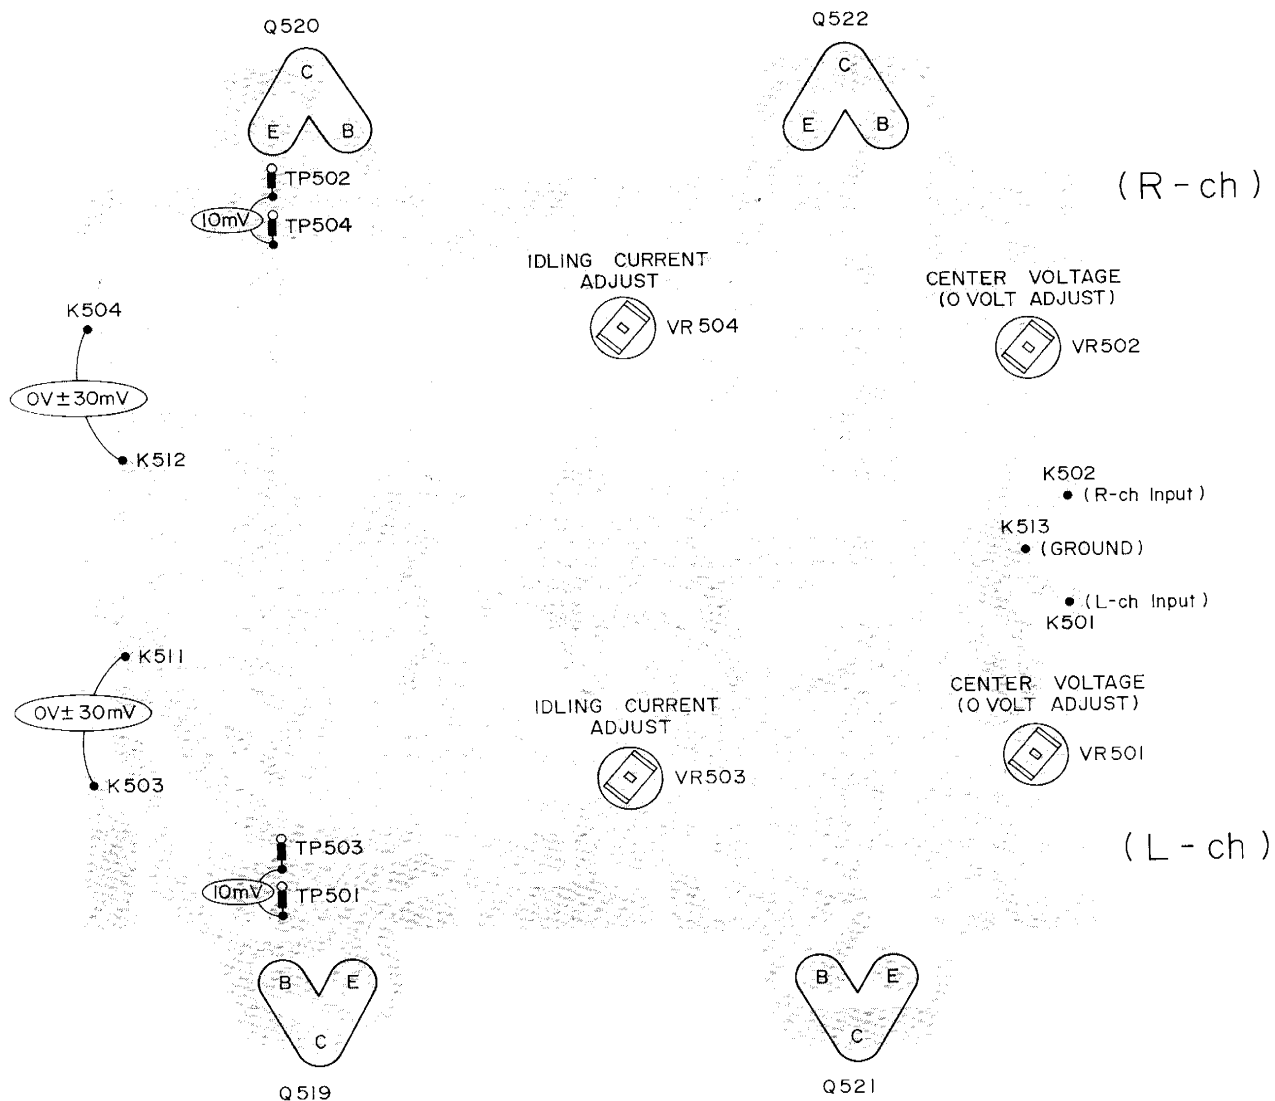

Figure 31-2 ALIGNMENT POINTS OF MAIN AMPLIFIER CIRCUIT
ADJUSTMENT OF MAIN AMPLIFIER CIRCUIT (See Figure 31-2)
4. Center Voltage Adjustment (See Fig. 31-2)
5. Idling Current Adjustment (See Fig. 31-2)